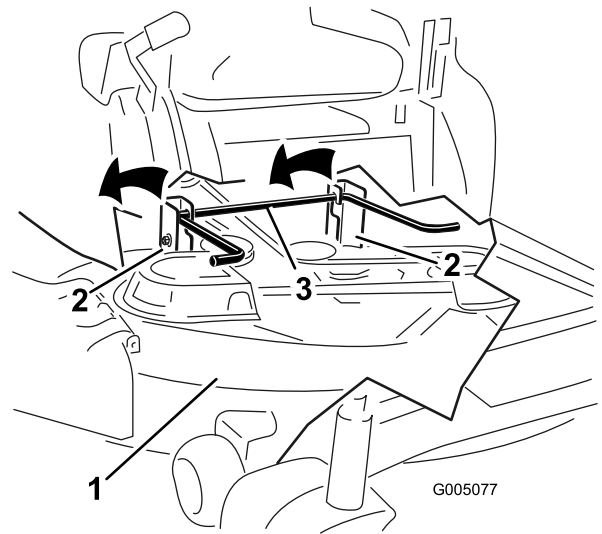

Figure 65
6. Lift the mower deck and hanger brackets clear of the rear lift rod and lower the mower carefully to the ground (Figure 65).
5. Lift the rear of the mower deck and guide the hanger brackets over the rear lift rod (Figure 65).